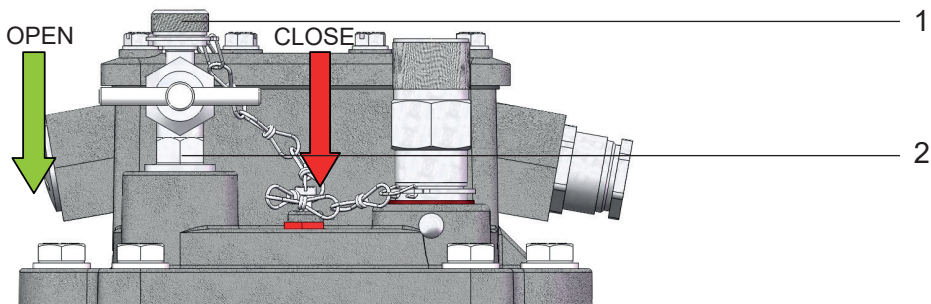

Figure 8 - Test valve
- Remove the small cap nut (Fig. 8/ No. 1) from the test valve (Fig. 8/ No. 2)